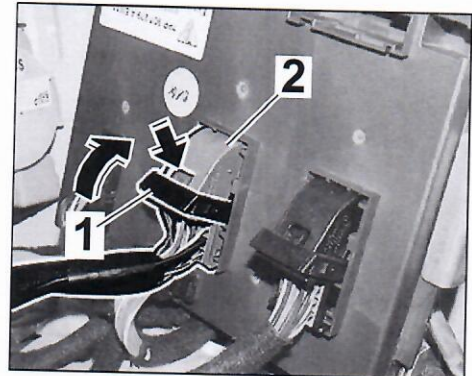

Figure 32
- 4.6.1 Press down the locking mechanism ⇒ *Figure 32 -arrow-* and swivel the clip ⇒ *Figure 32 -1-* upwards. Disconnect electric plug connection ⇒ *Figure 32 -2-*.